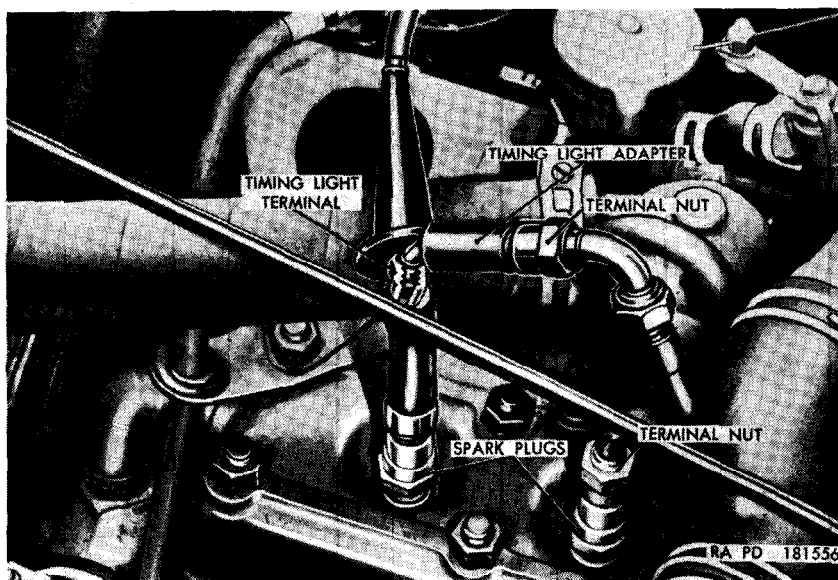

Figure 59. Timing light adapter—installed.
a. The ignition is timed by adjusting the distributor so the distributor points open at the correct firing intervals. Since the distributor with coil assembly is sealed, a special adapter (fig. 59) is required to connect the timing light.
g. Unscrew the terminal nut securing the spark plug cable assembly to No. 1 spark plug (fig. 59). Push the timing light adapter (fig. 59) over the spark plug and connect the No. 1 cable to the adapter. Connect one terminal of the timing light to the adapter and the other terminal to ground at any convenient place on the engine.
i. Stop the engine and remove the timing light. Pull the timing light adapter (fig. 59) from the spark plug and unscrew the terminal nut from the adapter. Install No. 1 spark plug cable assembly by screwing the terminal nut onto the spark plug.
(fig. 59)